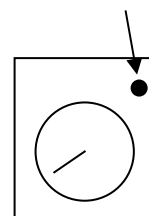

Figure 2
6. The LED of dry timer (See figure 2) turn to “flash” that means the dry timer starts work then the LED light on. This means the dry timer finished working then the buzzer start working